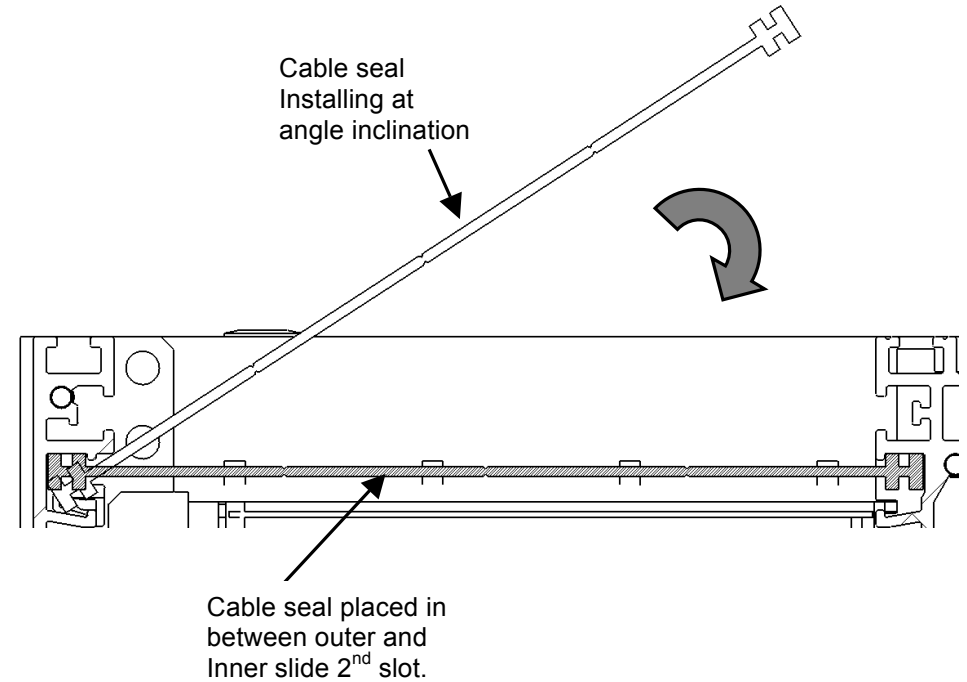

Fig. 2
2. Place the other end of Cable seal into the other extrusion slot (Fig.2).